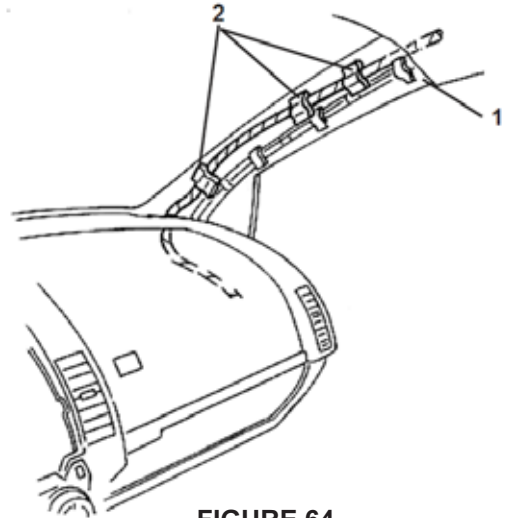

FIGURE 64
- 12.) CONTINUE ROUTING THE DVD MAIN WIRING HARNESS FROM THE TOP OF THE A-PILLAR (1) DOWN TO THE GLOVE BOX AREA AND SECURE USING THREE PIECES OF FOAM TAPE (2). (SEE FIGURE 64)